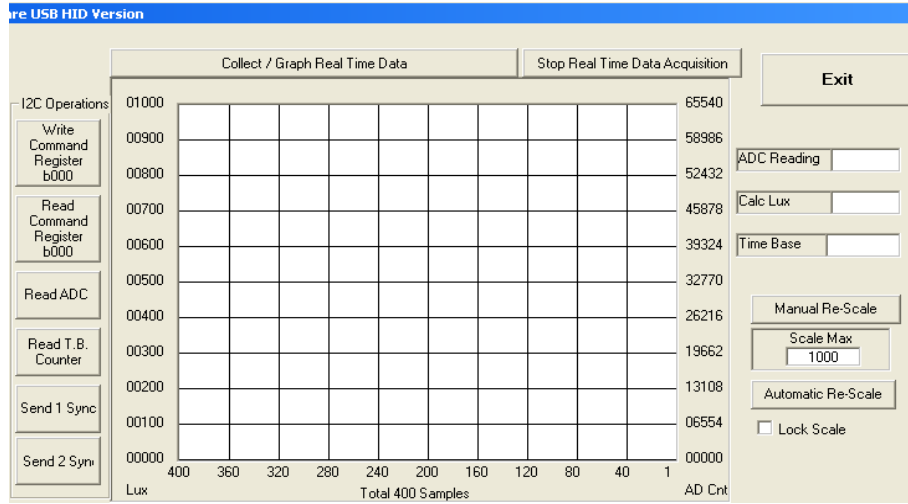

FIGURE 37.
**Collect Data Graphical Real Time Data** (Figure 37) allows you to sample data (whether ALScont, IRcont, ALS Once or IR Once). Samples are now being taken and are being plotted and appropriate values are displayed on the right in the corresponding box.